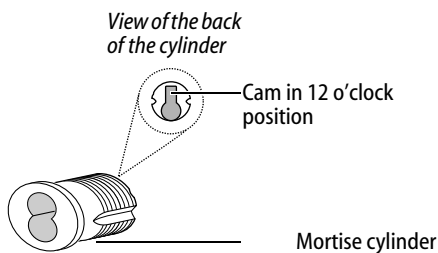

Figure 10c Mortise cylinder components
- 1 Rotate the cylinder cam to the 12 o'clock position, as shown in Figure 10c.